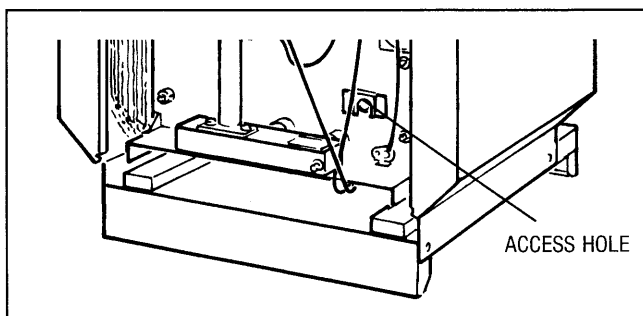

Fig. 11
1. Wait five (5) minutes to clear out any gas. Then smell for gas, including near the floor. If you smell gas, **STOP!** Follow "B" in the safety information printed on page 11. If you do not smell gas, go to the next step.
2. Locate the pilot assembly by looking through the access hole in the burner assembly plate, fig. 11.